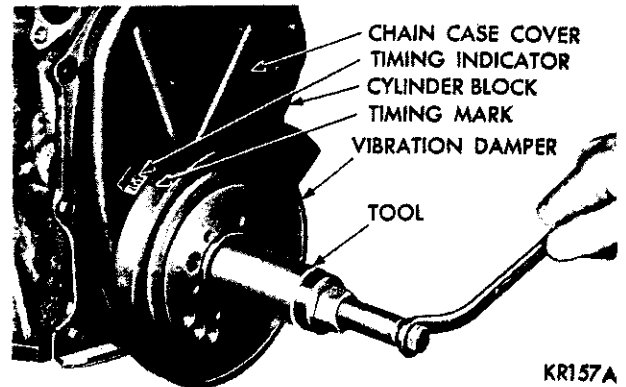

Fig. 28—Installing Vibration Damper Assembly
(1) Be sure mating surfaces of chain case cover and cylinder block are clean and free from burrs.
(2) Using a new gasket slide chain case cover over locating dowels. Install and tighten bolts 15 foot-pounds.
(3) Lubricate seal lip with lubriplate, place damper hub slot on key in crankshaft, and slide vibration damper on crankshaft.
(4) Place installing tool, part of Tool C-3688 in position and press damper on the crankshaft (Fig. 28).
(5) Install damper retainer washer and bolt. Tighten to 135 foot-pounds.
(6) Slide belt pulley over shaft and attach with bolts and lockwashers. Tighten bolts to 200 inch-pounds.